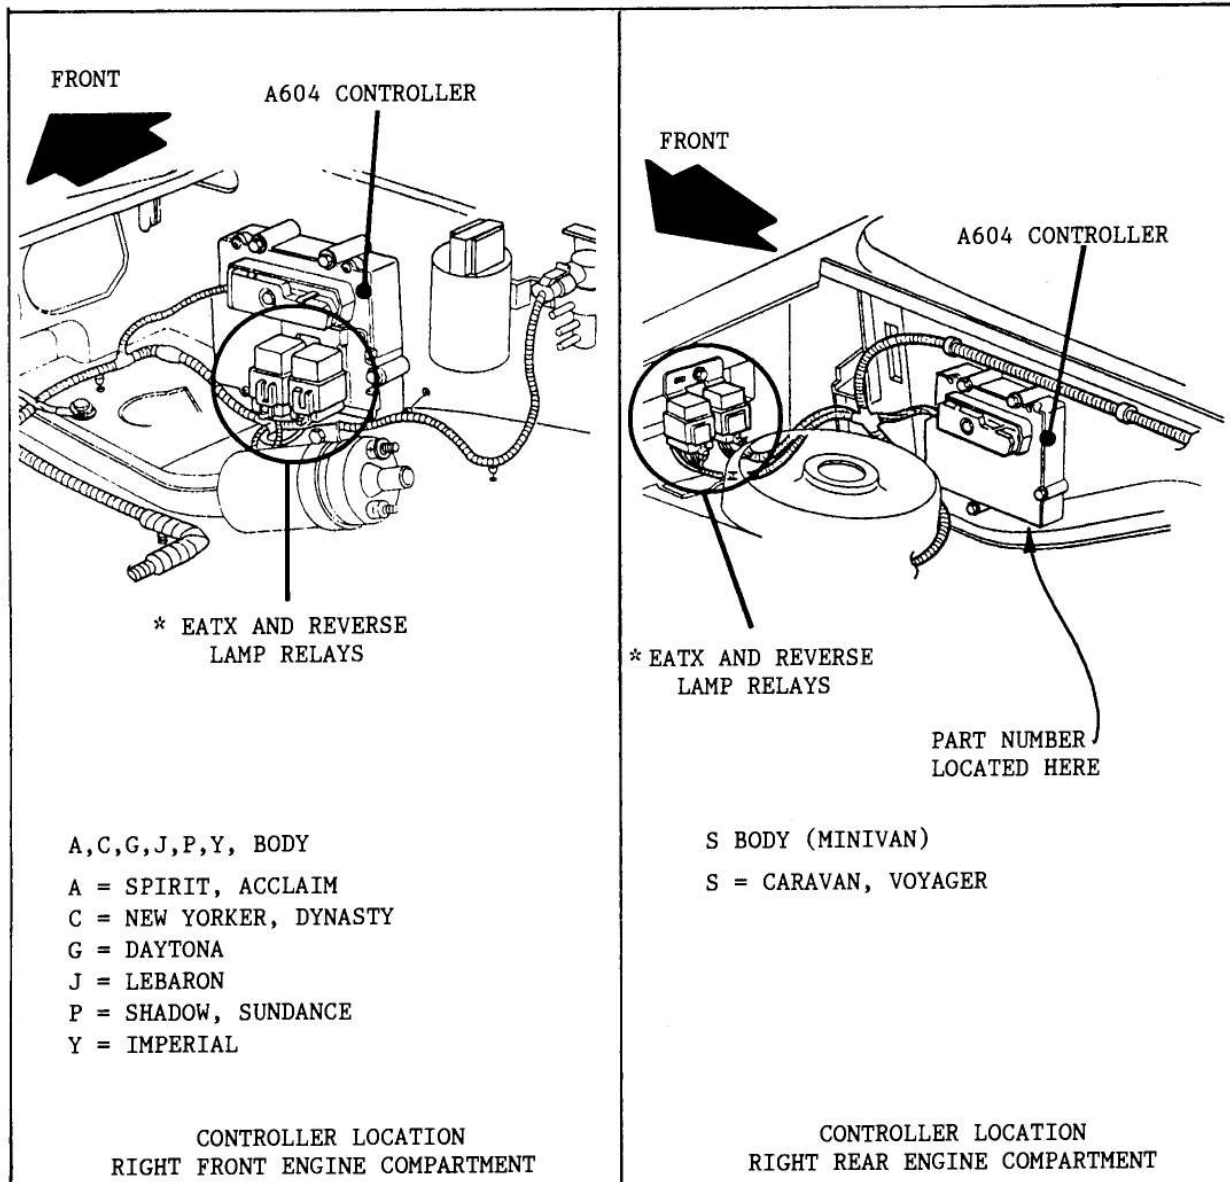

Figure 7
- (1) **TRANSAXLE CONTROLLER** - The controllers are identified by the last three digits of the OEM part number. The part number is on a sticker that is located on the bottom of the controller as shown in Figure 7.
The locations of the controllers will vary depending on the model of the vehicle. Refer to Figure 7 for the different locations. Figure 7 and 8 also shows the locations of the EATX relay, as their location will also vary depending on the model of the vehicle.